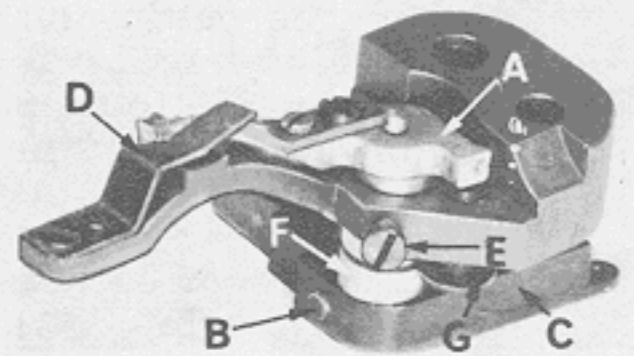

Fig. 32
1. There should be no bind or shake in lower knife pivot carrier (A, Fig. 32). This adjustment can be made by loosening screw (B) on the pivot release lever (C) and taking up the excessive end
Adjust lower knife until it just contacts the upper knife. To adjust the lower knife turn flange screw (G, Fig. 32) clockwise to lower knife and counterclockwise to raise it.